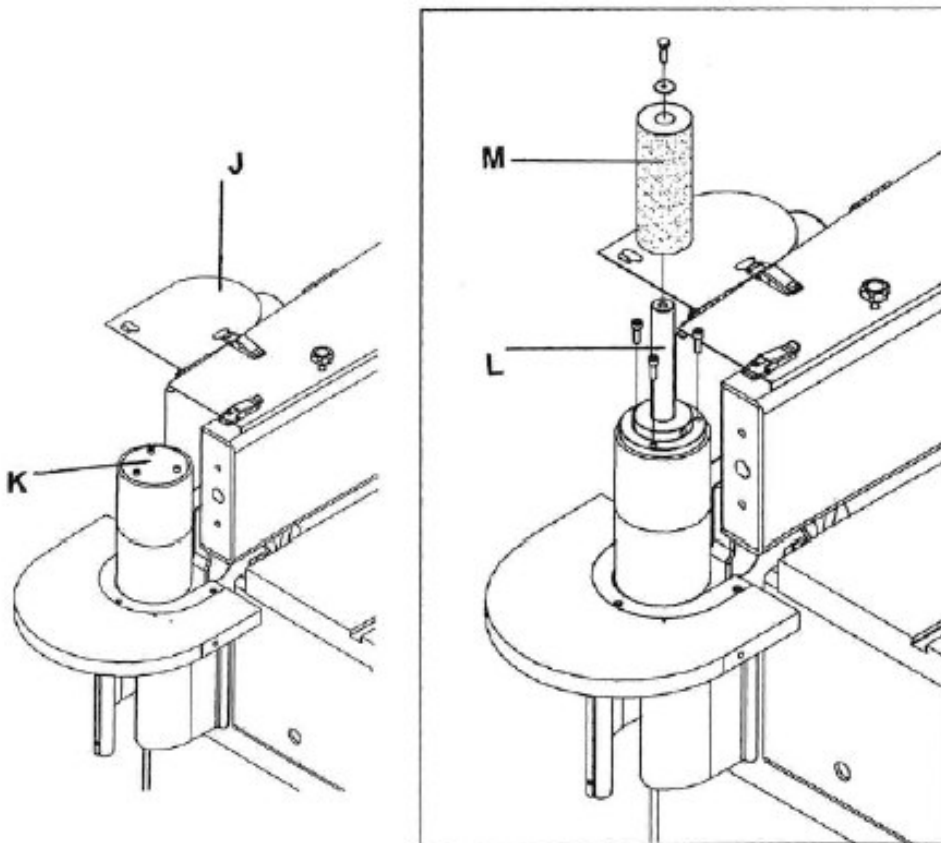

Fig.10-2: cylindrical grinding
Step 1: Open the roller cover (Item J, Fig. 10-2) and fix it to the clamping position.
and mount the spindle of the sanding roller (Pos. L, Fig. 10-2) by tightening the three M5 x 15L screws.
Step 3: Insert the rubber drum (Pos. M, Fig. 10-2) by inserting a washer and a